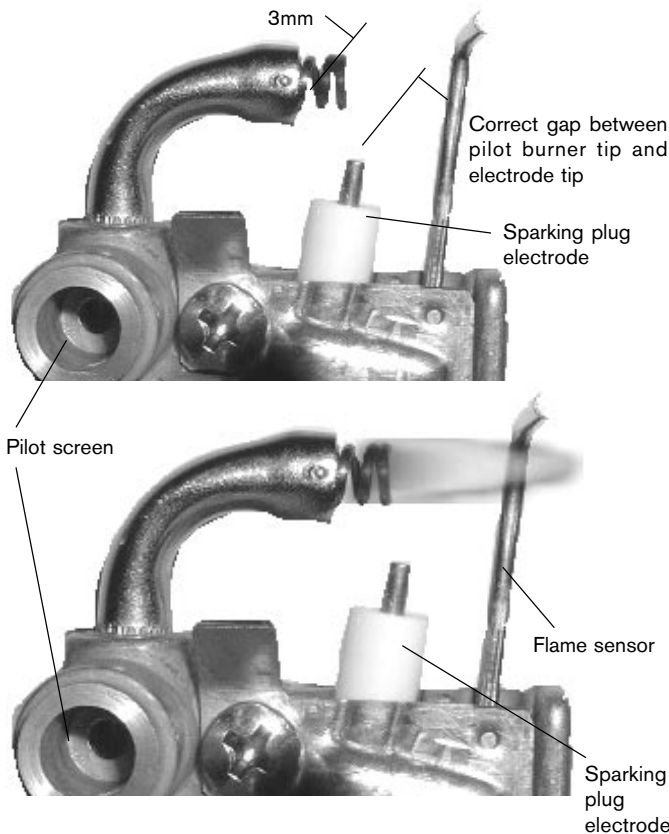

Fig. 12 - Characteristic Pilot Flame
**Pilot Flame:** The pilot flame should burn with a clean, sharp, blue flame and should resemble the diagram in Fig. 12. If the flame is soft and yellow the pilot screen may be dirty or the pilot burner orifice may need to be cleaned or replaced. The pilot flame should be approximately 2 inches long, extending past the flame sensor. If the flame is too small, it will not reach the flame sensor and the burners will not come on.